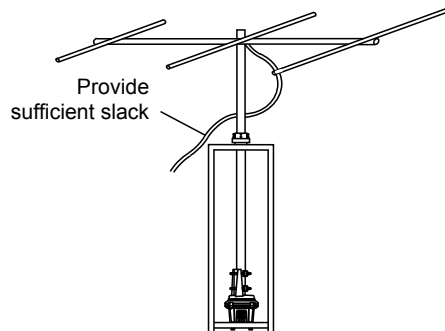

Figure 8
8. Provide sufficient slack in the coaxial cable such that the antenna can rotate over its full 450° range without putting any tension on the coax (see Figure 8). Secure the coax to the tower, using electrical tape and/or UV-resistant cable ties.